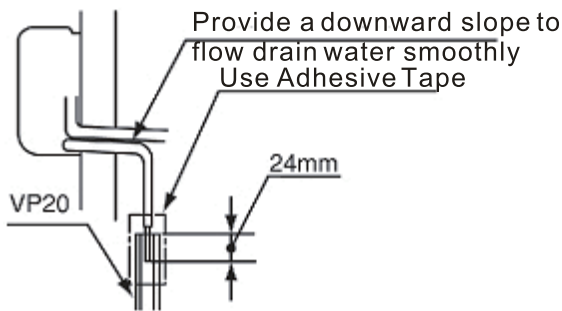

Fig. 6.2 Connection of Drain Piping
- (3) Provide a vinyl chloride pipe, VP20.
- (4) Connect a drain piping as shown in Fig. 6.2.